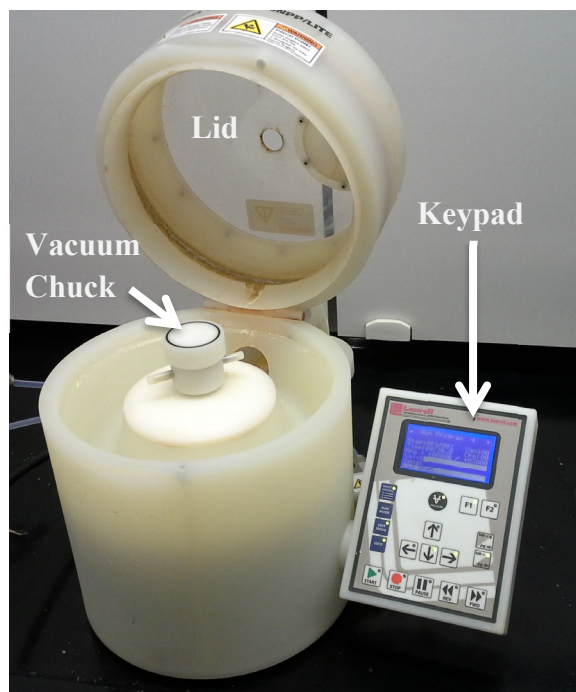

Figure 1. The WS-650 spin coater, shown with lid open.
- 2. Tool Components.** Figure 1 shows a front view of the spin coater. Key components visible in this view are the lid, the vacuum chuck, and the keypad.